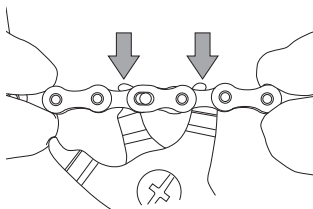

Fig.8
- Fit the connecting link closing calliper with teeth less than 1.8 mm thick into the inner links adjacent to the C-Link™ (Fig. 8).